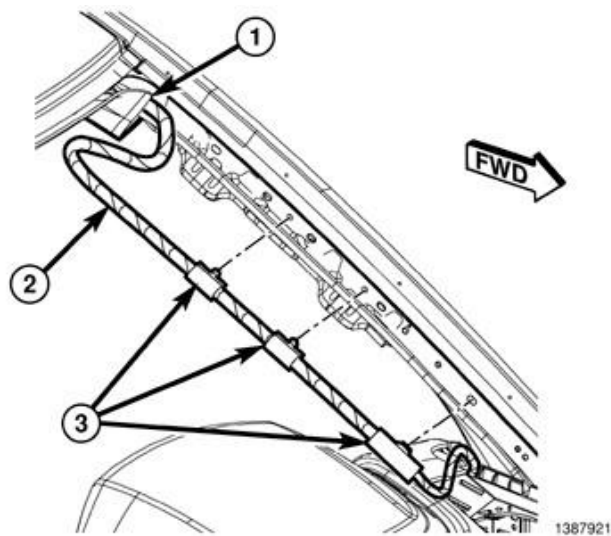

Figure 81 – Headliner Harness
24. As necessary, release the headliner wiring harness clips (3) from the A-pillar to allow enough wiring harness slack for lowering the headliner (Figure 81).
44. Reattach any headliner wiring harness clips (3) removed from the A-pillar to allow slack while lowering headliner (Figure 81).